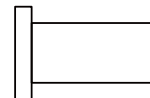

FIG 3
- Attach the allenbolt 1 1/4" (30 mm) (J), spring washer (W) and nut 3/4" (20 mm) (L) on the lowest hole of side frame.
- Final position as shown in FIG.3.